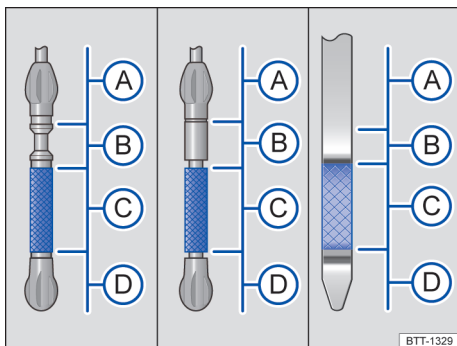
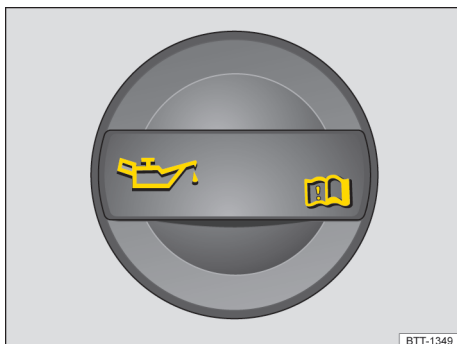

Fig. 170 Engine oil dipstick with oil level marks.
Fig. 171 In the engine compartment: Engine oil filler cap (cap design may vary depending on vehicle equipment).
Key to **fig. 170**:
4. Find the oil filler opening and the dipstick. You can identify these by the symbol on the engine oil filler cap → **fig. 171** and the colored handle on the dipstick. If you are not sure where the cap and the dipstick are located, see your authorized Volkswagen dealer or authorized Volkswagen Service Facility for assistance.
7. Remove the dipstick again and read the oil level on the dipstick → **fig. 170** as described below:
- (A):** Engine oil level too high. **Do not start the engine** → . Contact an authorized Volkswagen dealer or an authorized Volkswagen Service Facility for assistance.
- (B):** **Do not** add any oil → . Continue with step 15.
- (C):** Oil may be added, depending on the oil level. Continue with step 8 or step 15.
- (D):** **You must** add oil (about 1 quart / 1.0 liter). Continue with step 8.
9. Remove the cap on the engine oil filler opening → **fig. 171**.
13. After adding oil, the level must at least be in the center of the → fig. 170  range and can enter range , but should never enter range  → .
- Do not start the engine if the engine oil level is in range → fig. 170 . Contact an authorized Volkswagen dealer or an authorized Volkswagen Service Facility. Otherwise the catalytic converter and engine can be damaged!
The engine oil level should never be in range → fig. 170 . Otherwise oil can be drawn in by the crankcase ventilation system and enter the atmosphere via the exhaust system.